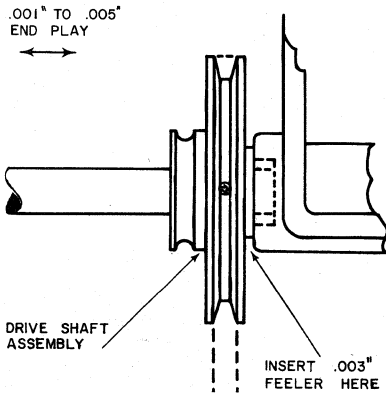

Figure 3
3. Insert a .003" feeler (thickness gauge T-18009) between the drive shaft pulley and the right bushing (Figure 3), press the rear gear, sprocket and hub assembly against the left bushing tightly (compressing the spring shim installed between the left bushing and the rear gear, sprocket and hub assembly) and tighten the set screws against the flat sections on the power drive shaft. Remove the .003" feeler. Grasp the shaft and try to move it laterally in the bushings. There should be a barely noticeable amount of end play, .001" to .005".